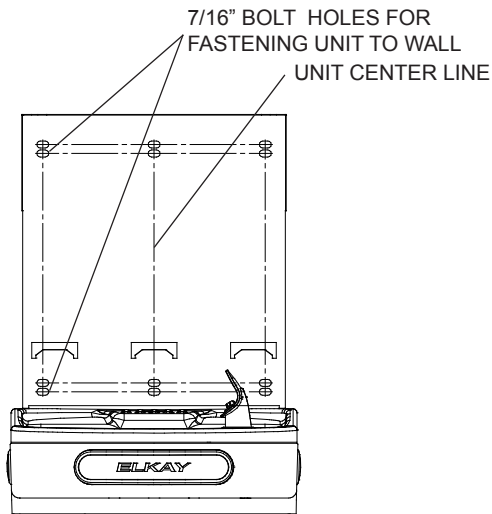

Fig. 4
- 2) **Remove wall mounting plate from Bottle Filler.** Place wall plate against wall on top of basin. Center the wall plate side to side with the basin. Mark the six (6) mounting holes with a pencil (See Fig. 4).
- 4) **Install wall mounting plate to wall** using six (6) 7/16" oround mounting holes (mounting bolts not included) (See Fig. 4). Use appropriate fasteners for your wall type.